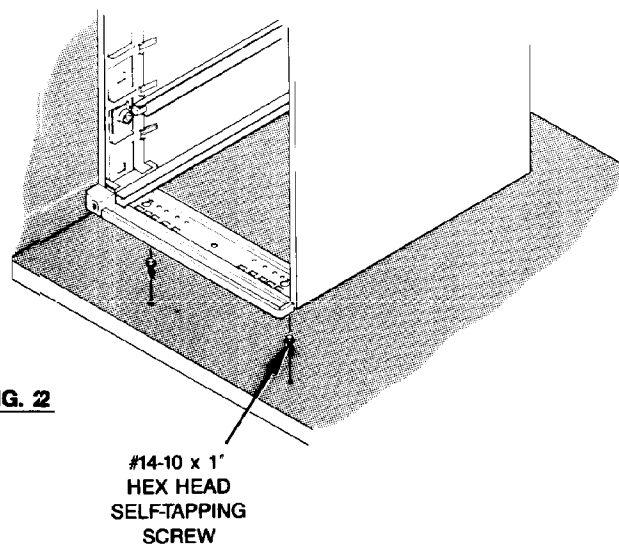

FIG. 2
2. The underside of the top is predrilled for mounting drawer pedestals. Determine right or left-hand drawer unit location. Start each of the four (4) # 14-10 X 1" hex head self-tapping screws in the correct holes in the surface, leaving a 3/16" gap between the surface and the screw heads (Fig. 2).
3. Attach the pedestal housing to the underside of the top by placing the pedestal housing over the heads of the screws, sliding the housing forward (away from the modesty panel) until the screws seat in the small portion of the keyhole slot. Tighten screws securely (Fig. 2).
NOTE: The location of the return support bracket varies depending on whether it will connect a 24" machine height return, a 20" return or a 24" desk height return. See Fig 2 for correct hole identification.